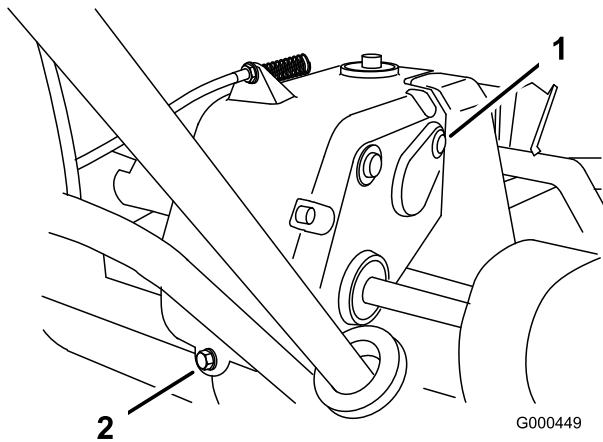

Figure 30
2. Remove the drain plug from the rear of the transmission (Figure 30).
3. Push down on the handle and tip the machine back. Remove the check/fill plug from the right-hand side of the transmission (Figure 30).